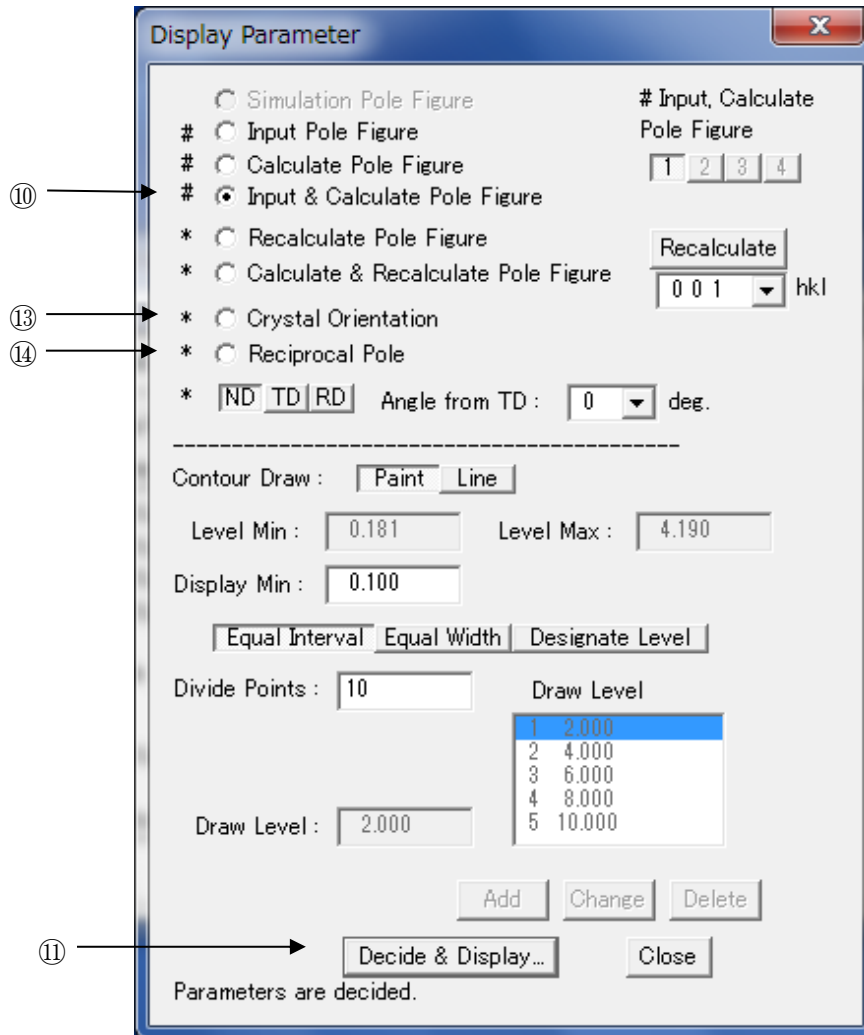
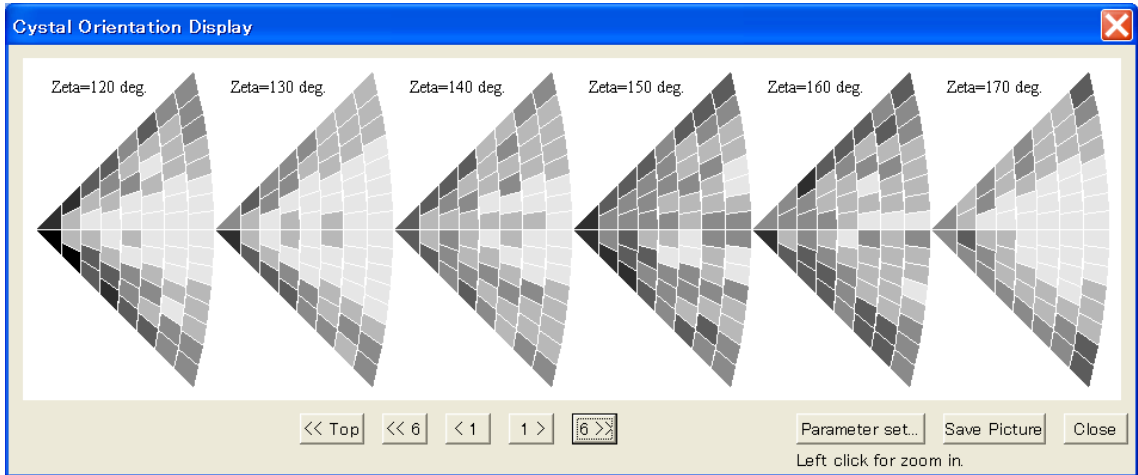
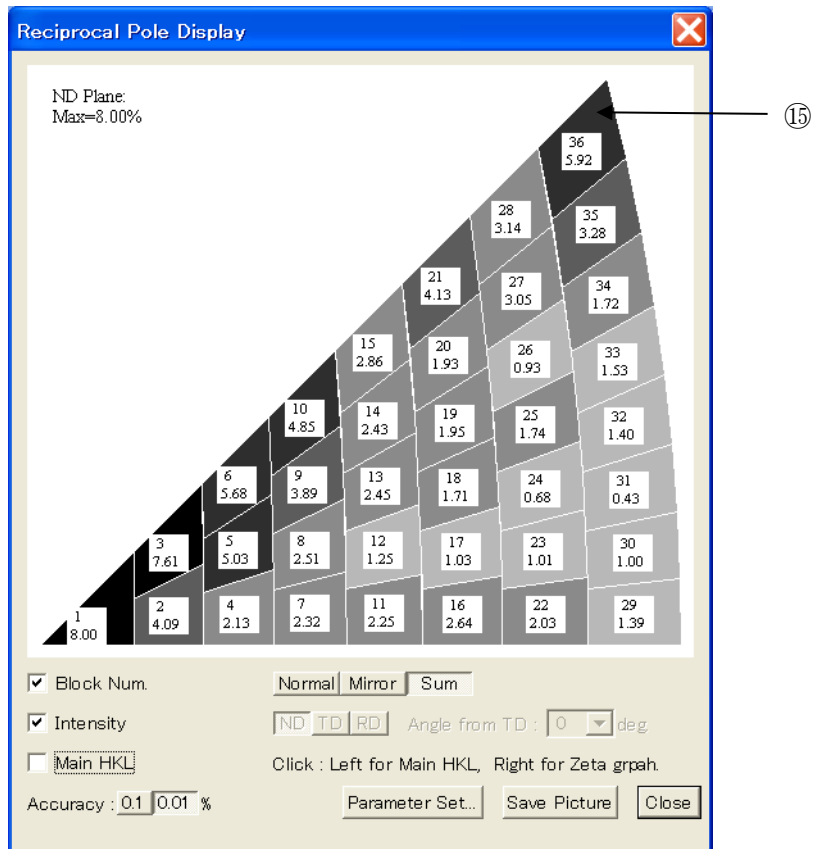
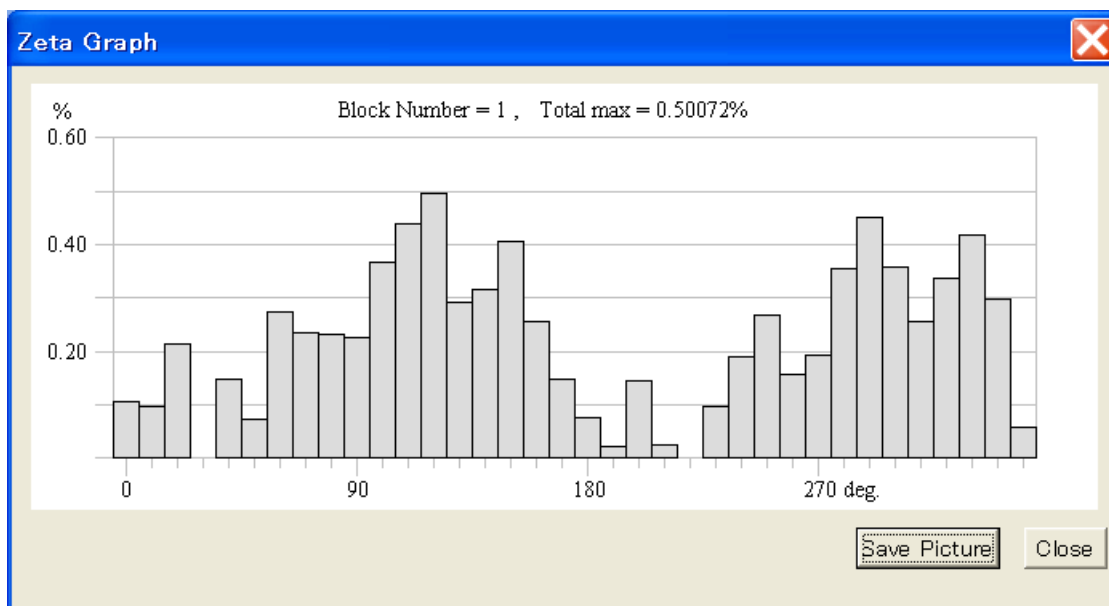

Fig. 5 Display Parameter
Fig. 8 Crystal Orientation Display
Fig. 9 Reciprocal Pole Display
Fig. 10 Zeta Graph
- ⑨ When you click “Display...” button, “Display Parameter” dialog (Fig. 5 ) is shown.
- ⑬ You select “Crystal Orientation” radio button at Fig. 5, and click “Decide & Display...” of ⑪, Crystal Orientation Display (Fig. 8) is shown.
- ⑭ You select “Reciprocal Pole” radio button at Fig. 5, and click “Decide & Display...” of ⑪, “Reciprocal Pole Display “ dialog (Fig. 9) is shown.
- ⑮ When you click a block of Reciprocal Pole (Fig. 9) by right mouse button, “Zeta Graph” dialog (Fig. 10) is shown. Fig. 10 is  $\zeta$  distribution of clicked block.